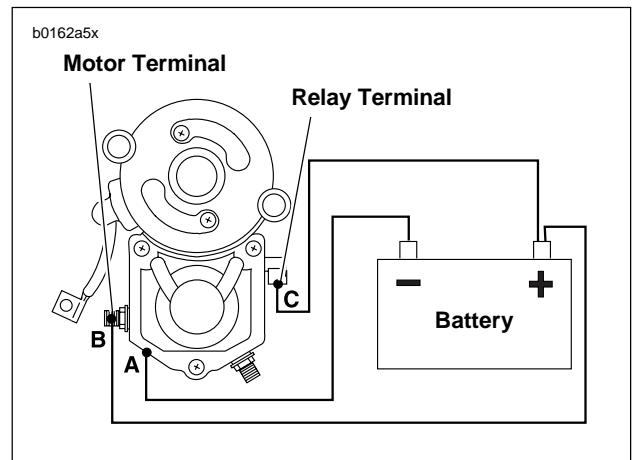

Figure 5-13. Hold-In Test
1. See Figure 5-13. With test leads still connected in the manner specified in the previous **SOLENOID PULL-IN TEST**, disconnect solenoid motor terminal/battery negative test lead (B) at negative battery post only; reconnect loose end of this test lead to positive battery post instead.